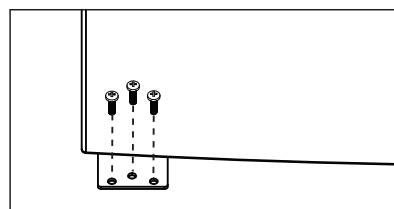

Fig. 7
3. Secure both brackets to the floor using a drill and 3 screws each (Fig.7).